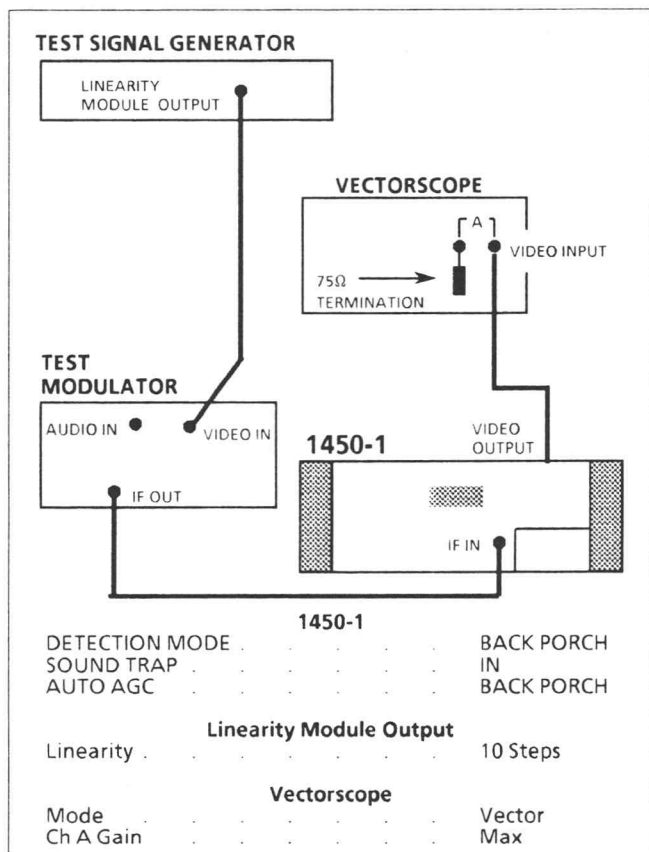

Fig. 4-18. Setup for checking differential gain.
- a. Connect and set the test equipment as shown in Fig. 4-18.